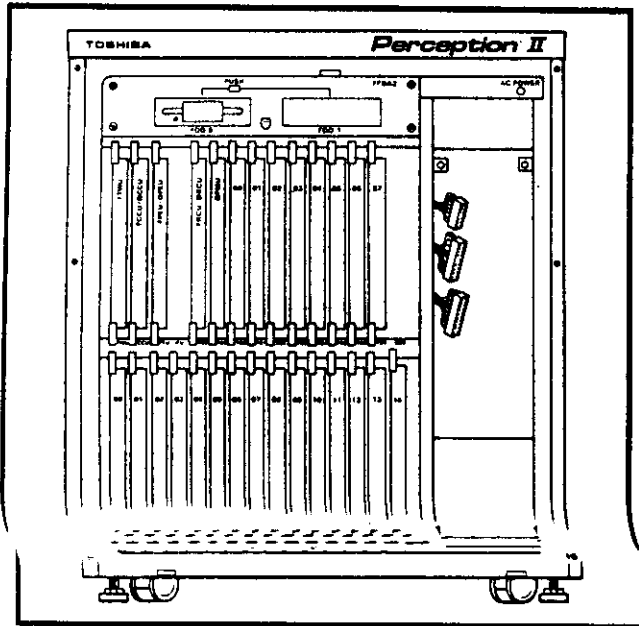

FIGURE 9—FPSA LOCATION
- 3) From the front of the cabinet, slide the FPSA into position. (Figure 9).